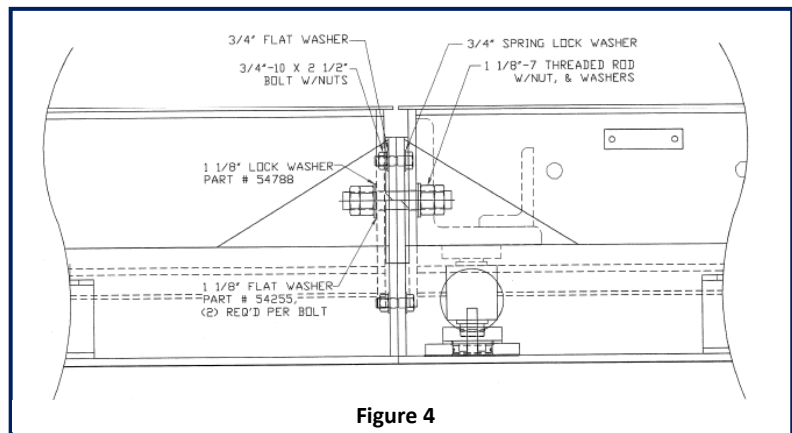

Figure 4
6. Fasten the sub-frame together. Using the two (2) $\frac{3}{4}$ " – 10 x 2 $\frac{1}{2}$ " bolts with nuts and $\frac{3}{4}$ " flat washer, secure the sub-frames together. See Figure 4.
8. Install the module connections. Install the 1 $\frac{1}{8}$ " – 7 threaded rod with nut and washers and secure the modules together. See Figure 4.